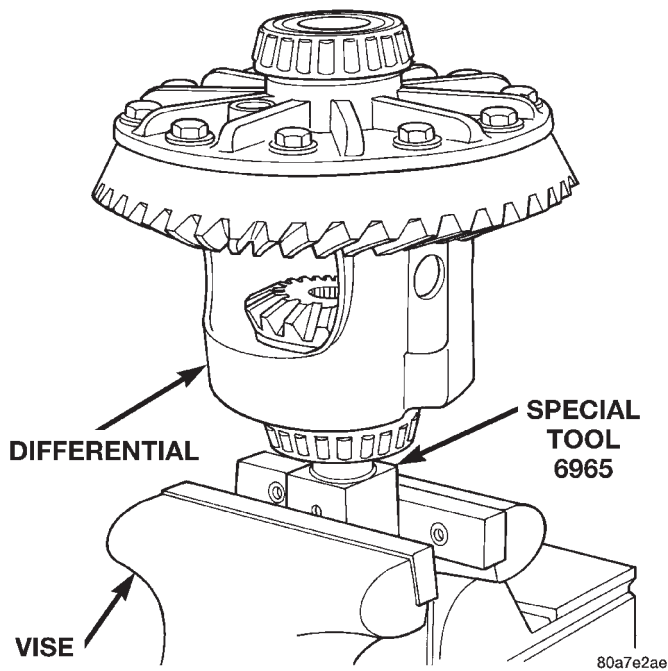

Fig. 52 Differential Case Holding Tool
(2) Position the differential case on Side Gear Holding Tool 6965 (Fig. 52).